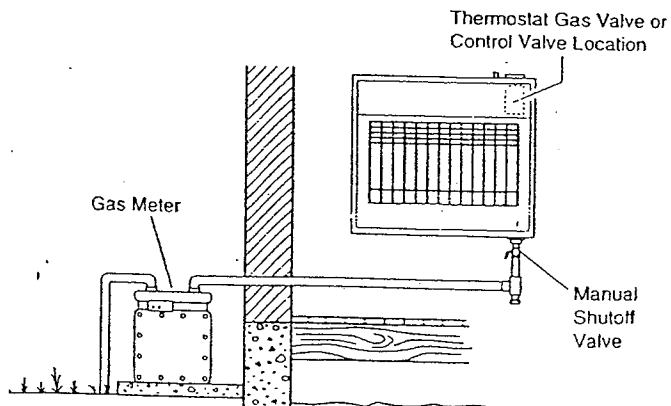

Figure 6
3. Check all joints from gas meter to manual shutoff valve (see Figure 6). Apply mixture of liquid soap and water to gas joints. Bubbles forming show a leak.
4. Check all joints from manual shutoff valve to thermostat gas valve on thermostat models, or control valve on non-thermostat models (see Figure 6). Apply mixture of liquid soap and water to gas joints. Bubbles forming show a leak.